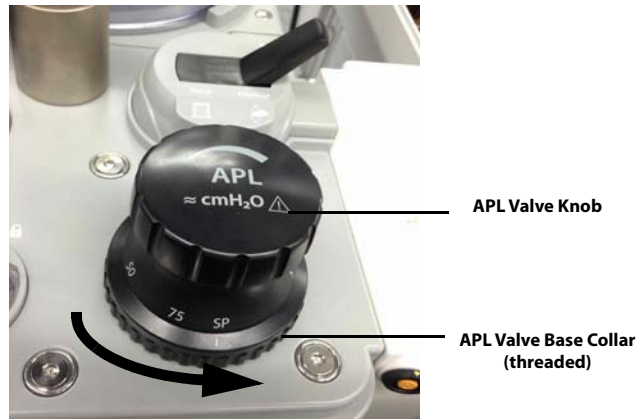

FIGURE 7-13 APL Valve Removal
1. The APL valve is a component that is plugged into position and secured by a threaded base collar. Loosen the base collar of the APL valve by turning the collar (not the valve knob) counterclockwise until it is no longer threaded (see FIGURE 7-13). Then, firmly pull the APL valve upward to remove.